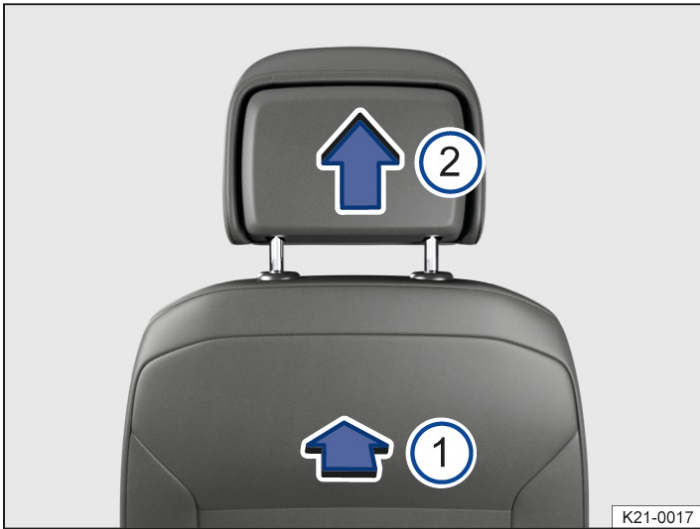

Fig. 1 Front head restraint: removing.
2. To release the head restraint, feel for the recess in the marked area on the rear side and press it in the direction of the arrow → Fig. 1 ¹.
3. Pull the head restraint out in the direction of the arrow → Fig. 1 ².